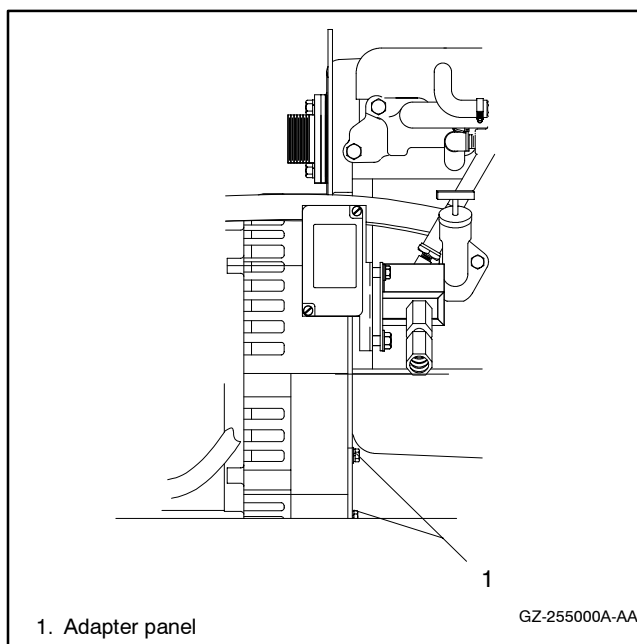

Figure 6-18 Adapter Panel
15. Remove four bolts and lock washers securing adapter panel to adapter. See Figure 6-18.